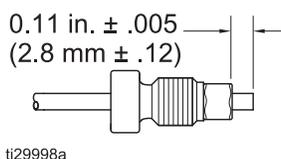

FIG. 2 Standard Electrostatic Applicator Fiber Optic Cable Length
2. **Fiber Optic Cable** — Use the included cutter tool (Kit 24W823) to reduce the fiber optic cable length. Cut the cable to measure $0.110" \pm 0.005"$ (2.8 ± 0.12 mm) from the flat end of the hex nut fitting to the end of the cable (See FIG. 2).